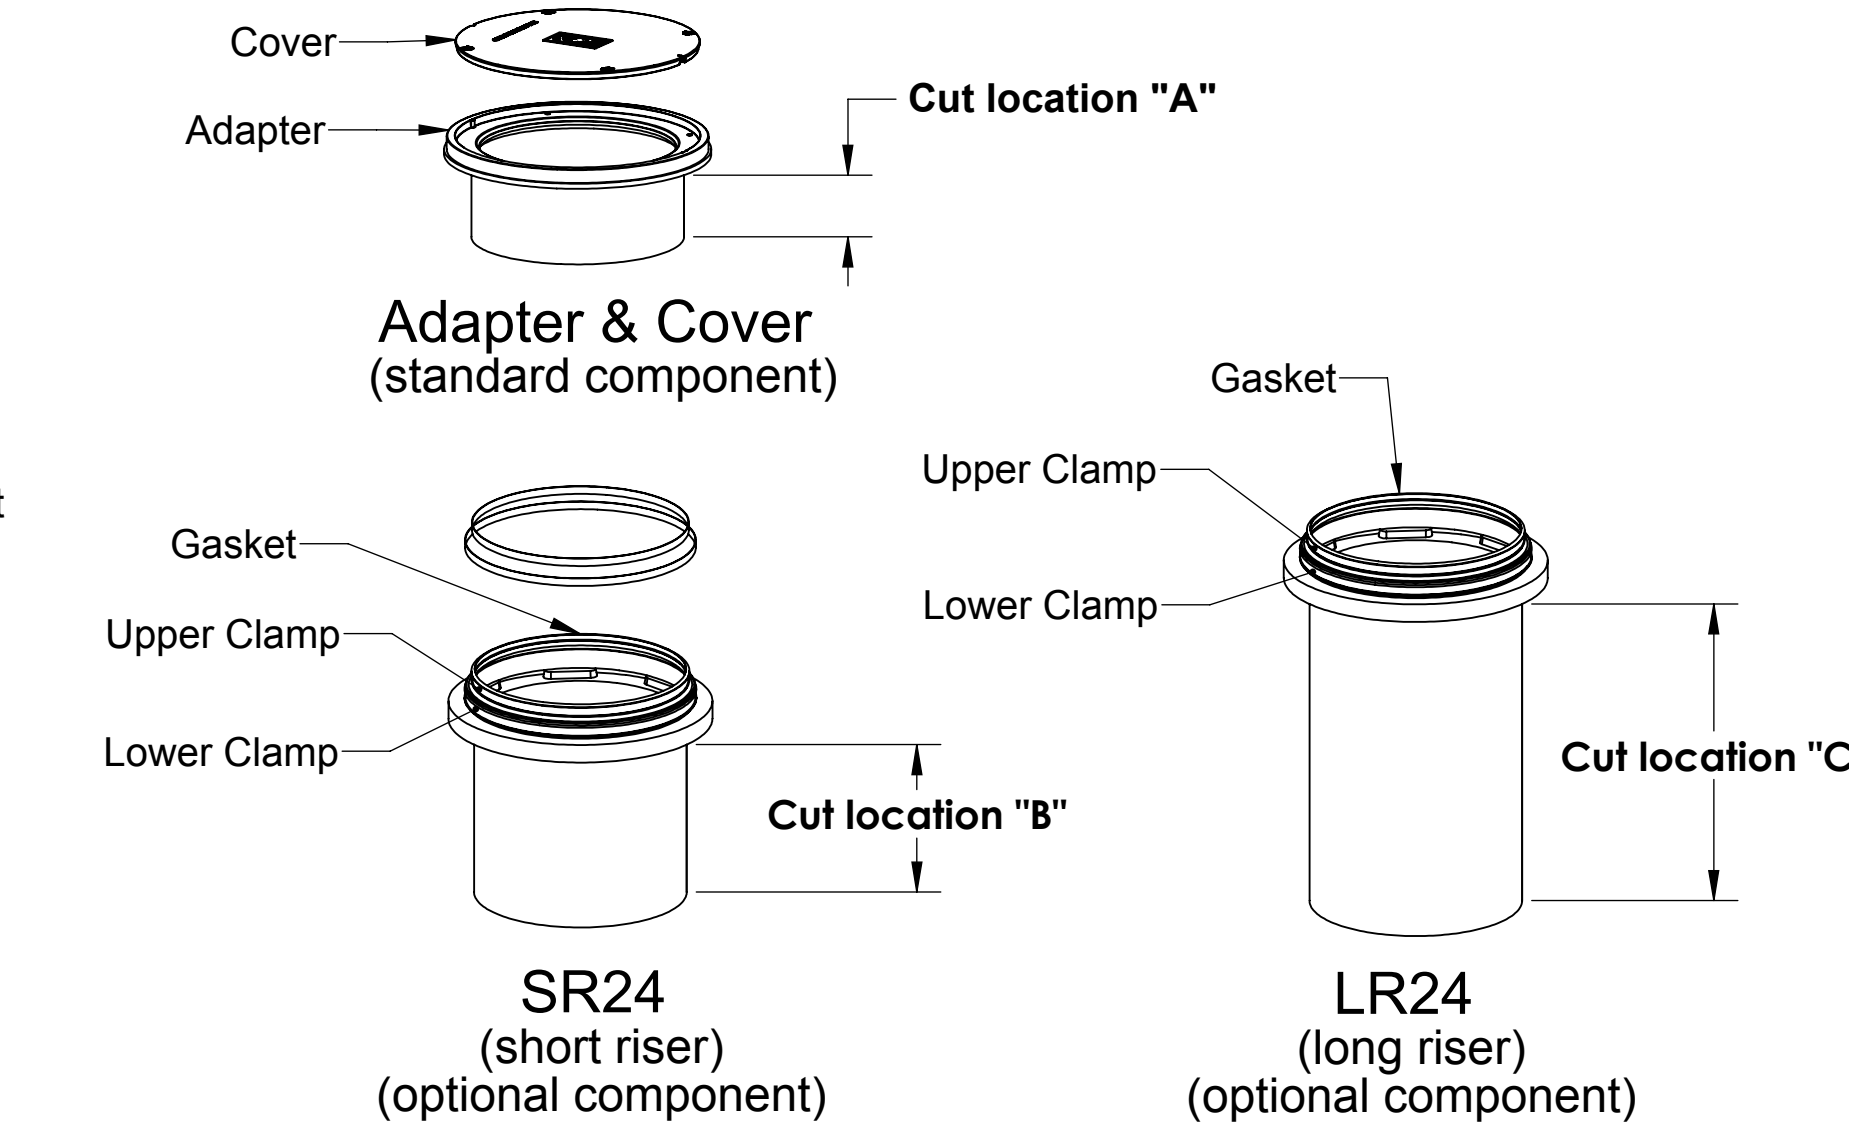

Figure 3
7. Whether the riser needs to be cut or not, make another mark with the silver marker on the sidewall of the riser a distance of 4 INCHES (3 INCHES for a GB-35 w/ 4" connections) above the edge just cut. If you did not make a cut (meaning your riser height + dimension from step 5 line was beyond the bottom edge of your riser), still mark the sidewall of the riser 4 INCHES above where your riser height + dimension from step 5 line would have been. DO NOT cut this new line. Once the riser is installed into the main unit, this new line will end up at the top of the gasket and will aid in re-assembly. See Figure 3.